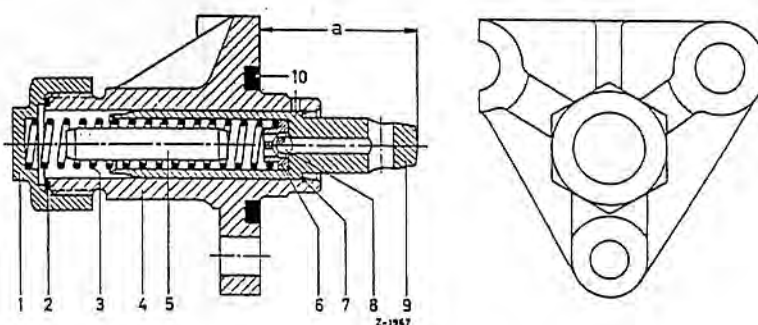

Fig. 05-11/1
It is advisable to replace faulty chain tensioners as a complete assembly. If individual parts are obtained for replacement, the pressure pin (9) and the housing (4) must not be exchanged individually since both parts must be selected so as to match perfectly (see Fig. 05-11/1).
1. Unscrew the cap nut (1); please remember that the pressure spring (3) presses against the cap nut (see Fig. 05-11/1).
2. Take the pressure spring (3), the pin (5), the ball retainer (6), the ball (8), and the pressure pin (9) out of the housing (4) (see Fig. 05-11/1).
4. Insert the pressure pin (9) in the housing (4). Put the ball (8) together with the ball retainer (6), the pin (5), and the pressure spring (3) in the pressure pin (9). Screw on the cap nut (1) together with the sealing ring (2) and tighten (see Fig. 05-11/1).